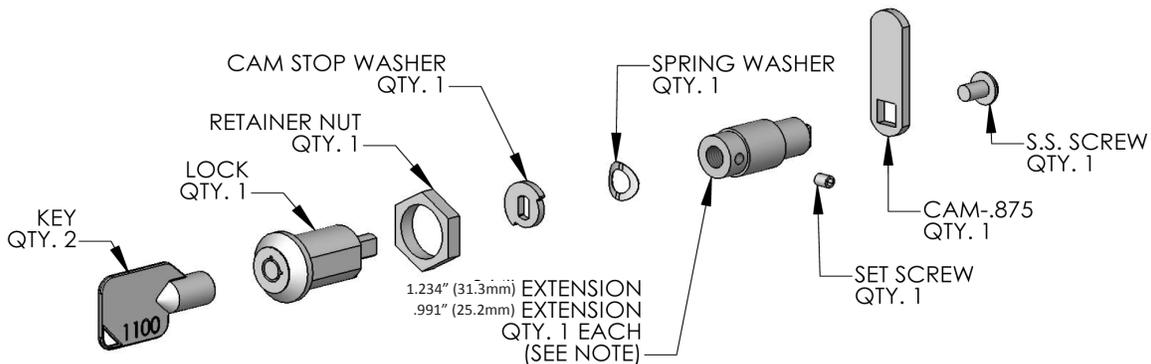

Figure 12
Two (2) lock extensions are supplied with the lock. Use the longer extension for a $\frac{3}{4}$ " thick overlay panel and the shorter one for a $\frac{5}{8}$ " thick panel. Assemble the lock extension, cam stop washer, spring washer, and set screw to the lock as shown in Figure 12 and 13.